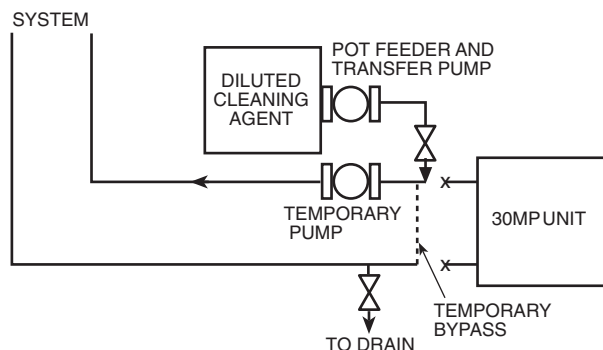

Fig. 15 — Typical Set Up for Cleaning Process
1. Install a temporary bypass around the chiller to avoid circulating dirty water and particulates into the pump package and chiller during the flush. Use a temporary circulating pump during the cleaning process. Also, be sure that there is capability to fully drain the system after cleaning. (See Fig 15.)